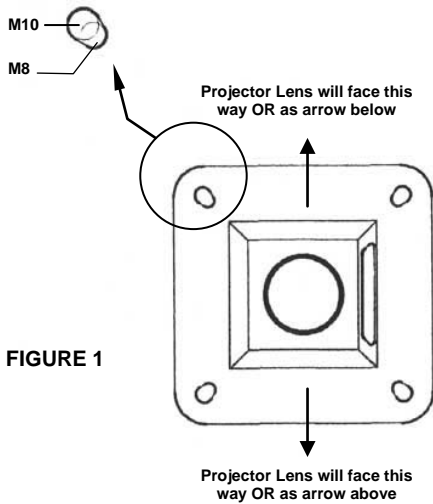

FIGURE 1
1. See figs 1 and 4. Note orientation of socket fixing holes and cable hole on ceiling plate and the direction that the projector will face when assembled, as shown by arrows.
2. Use ceiling plate as a template to mark drilling centres on the ceiling. Size and type of fixings used must be selected to suit ceiling and weight of all components to be suspended. Note that mounting holes are teardrop and will accept up to M10 at outer edge, up to M8 at inner (see fig1).